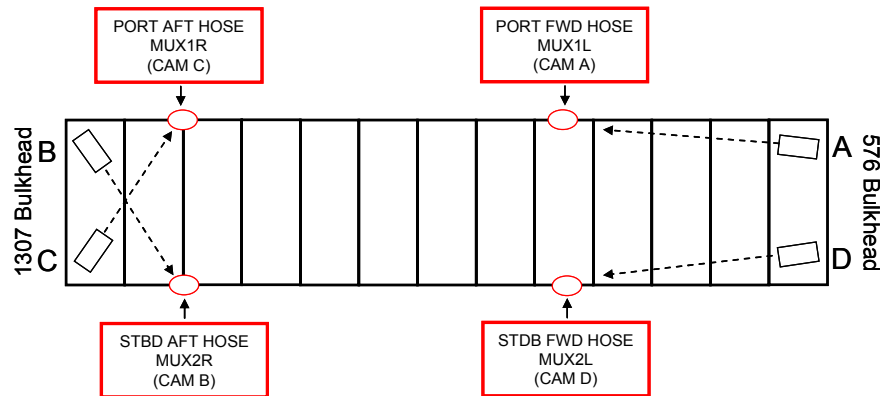

Figure 1-5. RAD hose camera hose muxing
- 5. ✓MCC for rad hose camr pointing and composed MUX1(A,C) and MUX2(D,B) camr views (see fig 1-5)